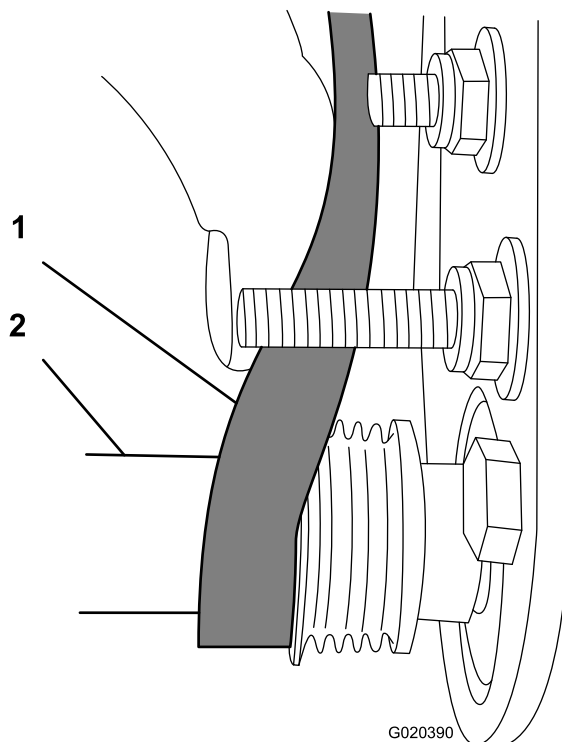

Figure 25
- C. Use a 9/16-inch deep-well socket to rotate the brush assembly and guide the belt onto the driven pulley (Figure 25).